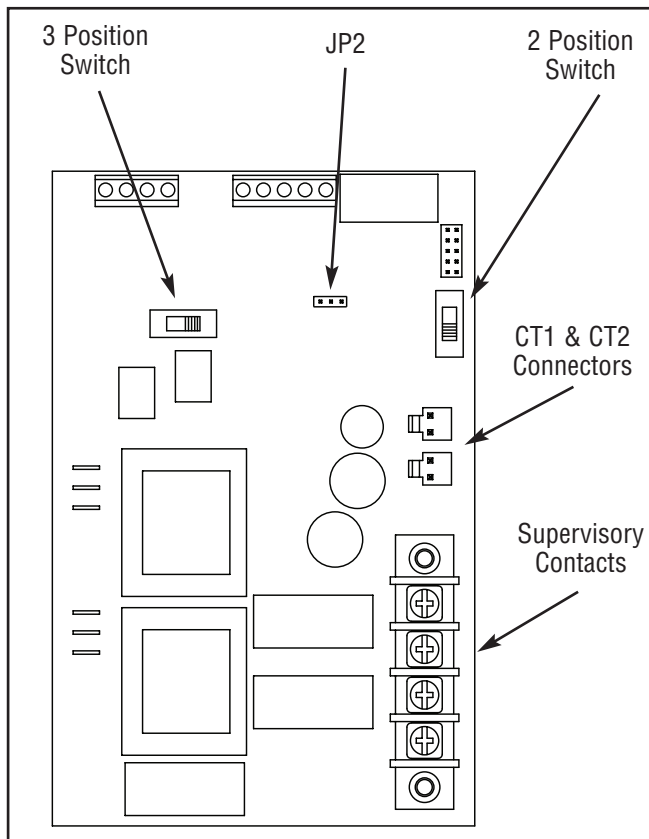

Figure 7 — Control Module
- If generator is installed in an area regularly subjected to temperatures below 40°F (4°C), select a 50 second warm up time by moving jumper installed on JP2 (Figure 7) from ‘20’ position to ‘50’ position.
- Place 2 position switch (Figure 7) in ‘NG’ or ‘LP’ position, whichever is appropriate for your system.
- Place 3 position switch (Figure 7) to match KW rating of installed generator.